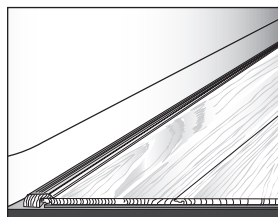

Figure 20
- Molding may be used along a straight tub or shower base (Fig. 20). The expansion zone should be filled with 100% silicone caulk and the molding seated in the caulk while it is still wet. The joint between the molding and the tub or shower base should also be caulked.